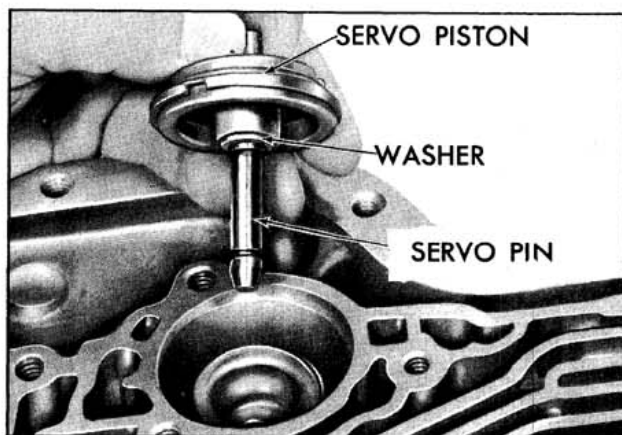

Fig. 6-50 Removing Front Servo
- Remove the front servo piston, washer, pin, retainer and spring from transmission case. (Fig. 6-50 and 6-51)